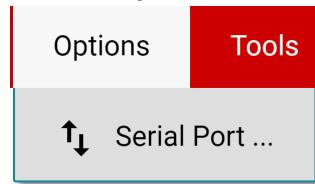

Figure 3-4. Change Serial Port
- b. Check different hardware COM ports under **Options >> Serial Port**, as shown in Figure 3-4.